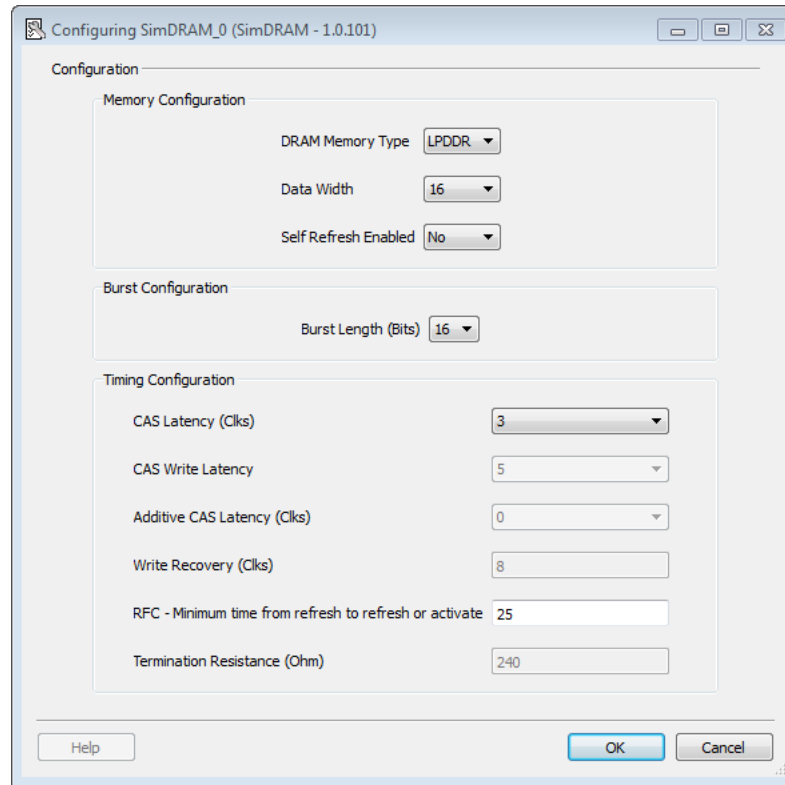

Figure 23 • Configuring SimDRAM
- Enter the Generic DDR Memory Simulation model configuration details as shown in Figure 23. The example design uses one instance of SimDRAM (VIP model) with the device width size of 16.